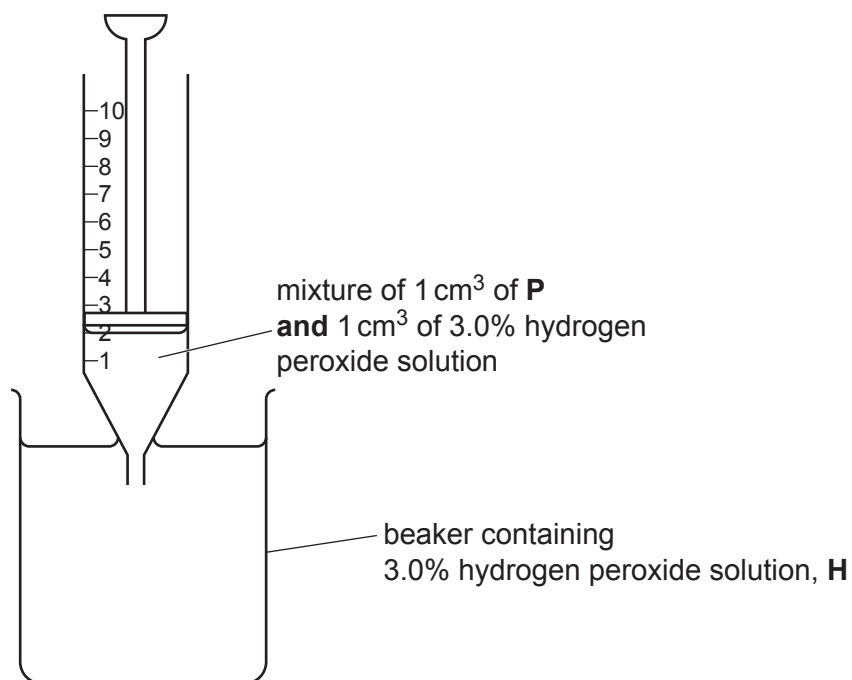

Fig. 1.3
8. Pull the plunger out to the 2 cm^3 mark so that 1 cm^3 of the 3.0% hydrogen peroxide solution enters the syringe, as shown in Fig. 1.3.